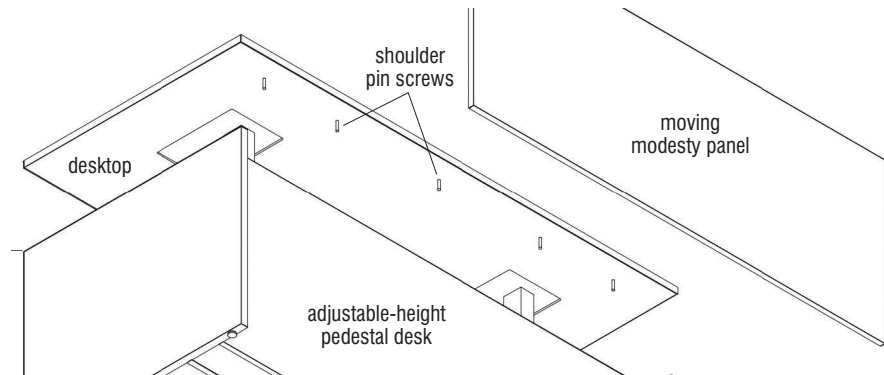

Figure 3
1. Raise the height of the adjustable-height pedestal desk or credenza enough to gain access underneath the desktop from the user side. This will allow a second person to secure the modesty panel to the cams in a later step (Figure 3).
2. Using a Phillips screwdriver, twist four shoulder pin screws into the mounting hole locations on the underside of the desktop until the first shoulder of the pin screw comes tightly into contact with the desktop as illustrated (Figure 3).
5. Align the cam holes on top of the moving modesty panel with the heads of the shoulder pin screws under the desktop. With the assistance of a second person, have one person lift the modesty panel up against the desktop so the shoulder pin screws insert into the cam holes, then the second person turns each cam clockwise with a Phillips screwdriver to lock the sleeve in place under the worksurface (Figures 3 & 4).